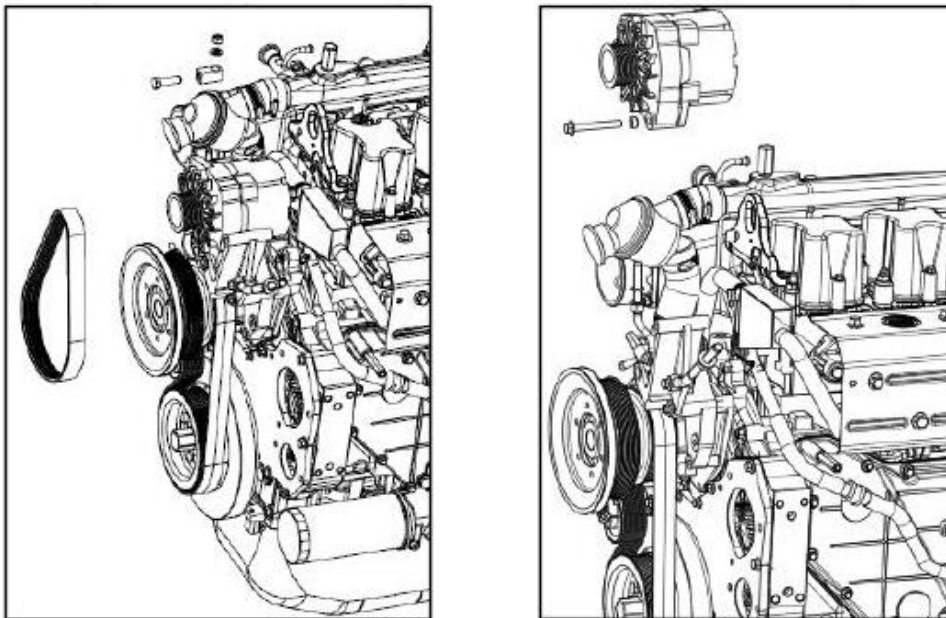

Fig. 4-79 Disassembly of generator module
- (1) Screw off generator draw-in nut, remove connecting bolt and nut of draw-in block, take down the block and gasket.
- (2) Remove generator the other end fixing bolt, rotate the generator to remove the poly V-belt, take down the fixing bolt and generator, as shown in Fig. 4-79.